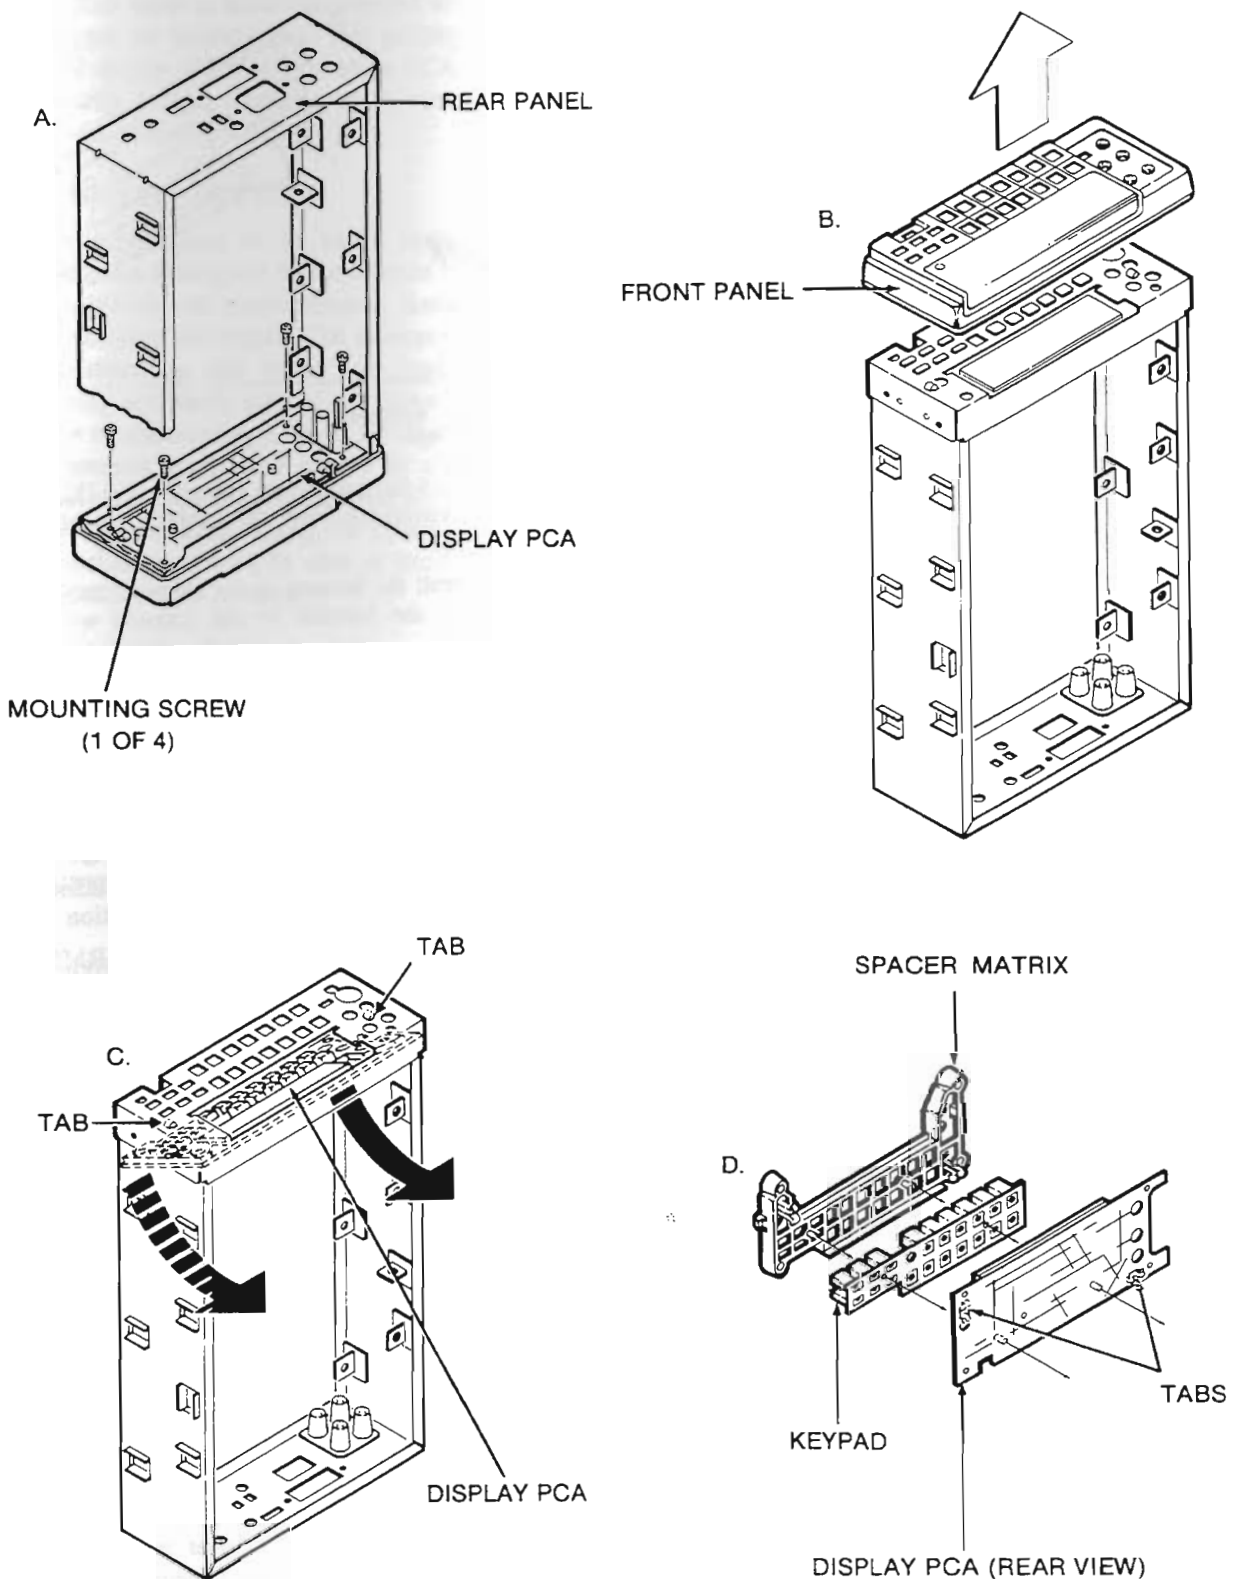

Figure 6-7. Front Panel Disassembly
1. Assemble the front panel assembly by reversing the front panel disassembly procedure (Figure 6-7). The easiest way to lay the keypad on the Display PCA is to install the spacer matrix on the Display PCA first.